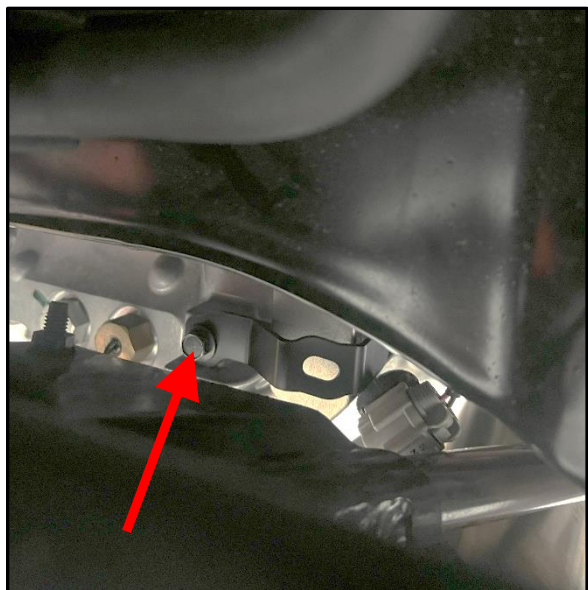

Figure 3
5. Locate the Differential Harness Relocation Bracket. Position the Bracket onto the Differential Cover where the OE Bracket was just removed. *Figure 3.*